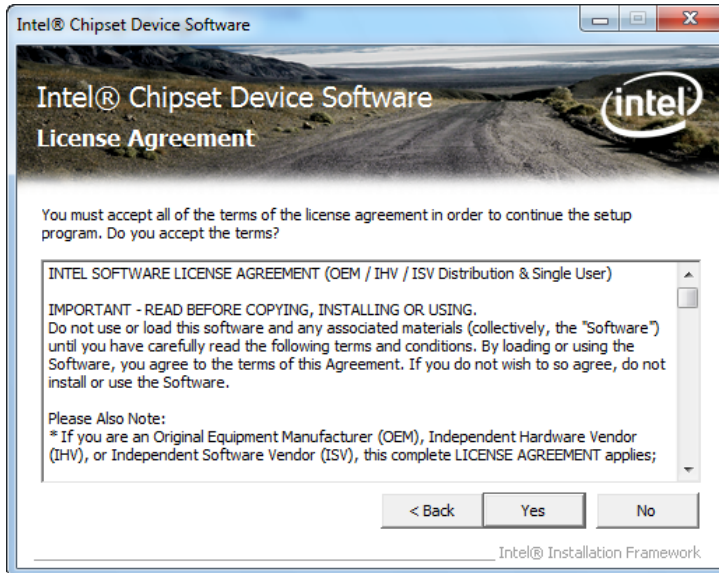

Figure 5-4: Chipset Driver License Agreement
Step 7: The license agreement in **Figure 5-4** appears.